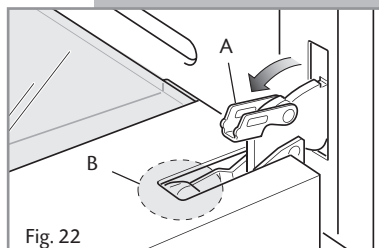
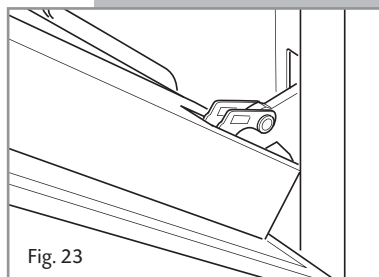

Fig. 22
Fig. 23
- Fully open the lever **A** on the left and right hinges (Fig 22).
- Gently close the door (Fig. 23) until the left and right hinges are hooked to part **B** of the door (Fig. 22).
1. Make sure the door is locked open (see fig. 23).